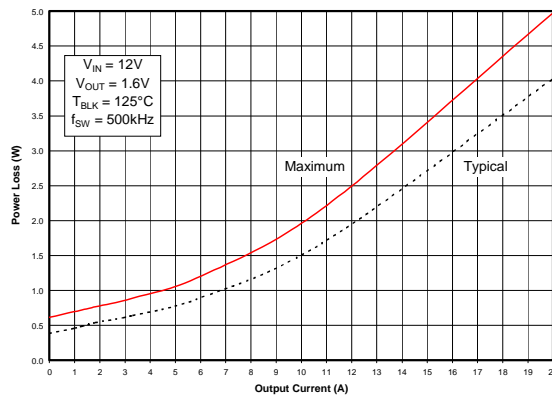
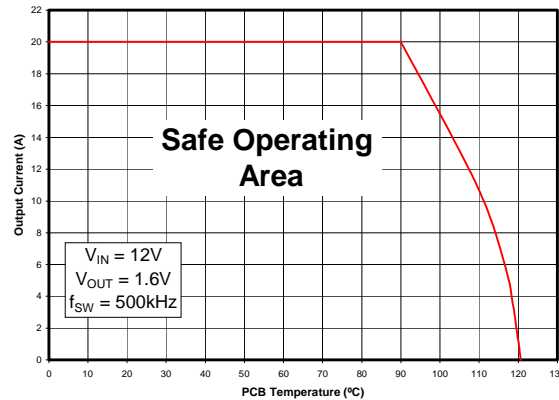
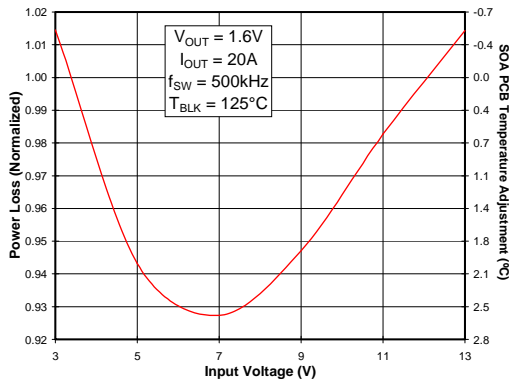

Fig 1. Power Loss vs. Current
Fig 2. Safe Operating Area (SOA) vs. T_{PCB} *
Fig 3. Normalized Power Loss vs. V_{IN}
To make adjustments to the power loss curves in Fig. 1, multiply the normalized value obtained from the curves in Figs. 3, 4, 5 or 6 by the value indicated on the power loss curve in Fig. 1. If multiple adjustments are required, multiply all of the normalized values together, then multiply that product by the value indicated on the power loss curve in Fig. 1. The resulting product is the final power loss based on all factors.
To make adjustments to the SOA curve in Fig. 2, determine the maximum allowed PCB temperature in Fig. 2 at the required operating current. Then, add the correction temperature from the normalized curves in Figs. 3, 4, 5 or 6 to find the final maximum allowable PCB temperature. When multiple adjustments are required, add all of the temperatures together, then add the sum to the PCB temperature indicated on the SOA graph to determine the final maximum allowable PCB temperature based on all factors.
- (Fig. 1) Maximum power loss = 5W
- (Fig. 3) Normalized power loss for input voltage ≈ 0.925
- (Fig. 2) SOA PCB Temperature = 90°C
- (Fig. 3) Normalized SOA PCB Temperature for input voltage $\approx 2.6^\circ\text{C}$